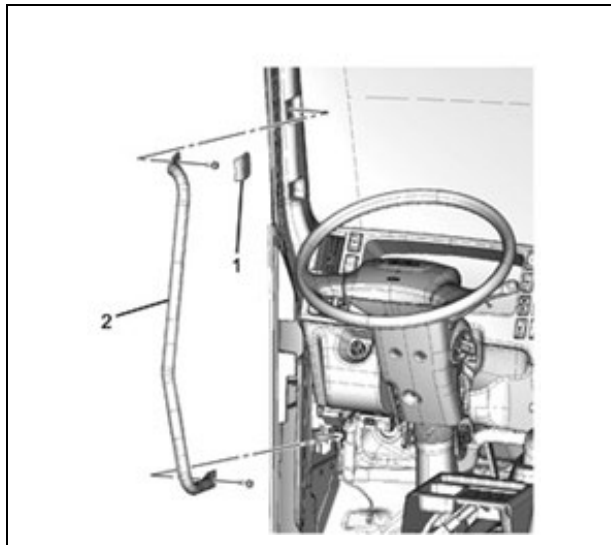

Figure 46
50. Open the assist handle upper cover using a flathead screwdriver and remove the upper bolt. Then remove the lower bolt of the assist handle and remove the assist handle from the front pillar. (See Figure 46.)